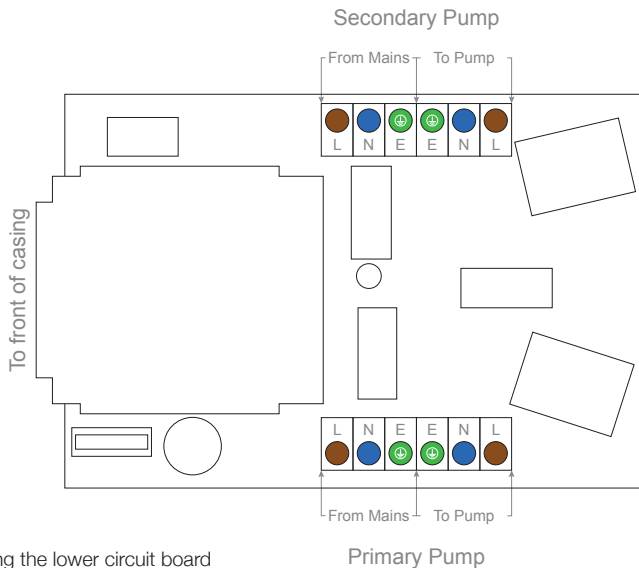

Figure 2. Wiring the lower circuit board
6. Connect the supply to the "From Mains" and the corresponding pump to the "To Pump" (figure 2).
7. Connect the supply to the 'From Mains' and the corresponding pump to the 'To Pump' (figure 2).